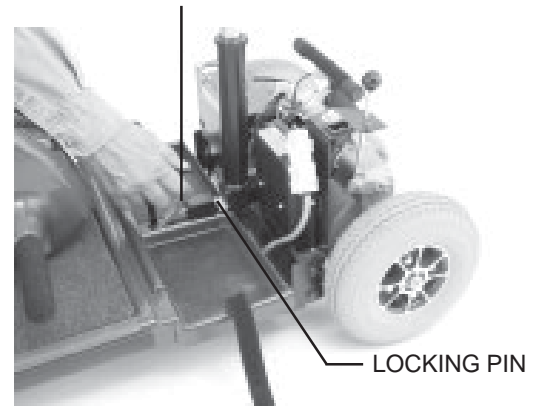

Figure 16. Front-To-Rear Locking Lever
2. Pull up on the front-to-rear locking lever (releases the locking pin) with one hand, and push on the seat pedestal to pivot the scooter's rear section backward with your other hand—far enough so the rear section's upper pegs come free of the front section's upper slots. See figures 16 and 17.